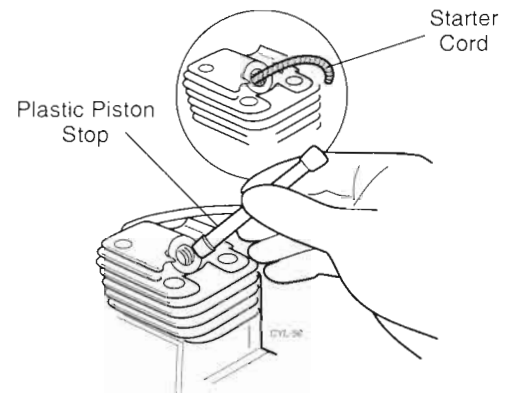

Figure 8.4 Lock the Crankshaft
STEP 1. Lock the crankshaft by inserting a soft piston stop through the spark plug hole (Figure 8.4), and then remove the flywheel nut (counter-clockwise to remove).